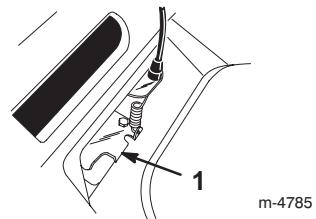

Figure 21
5. Push the belt guide tab down until it contacts the lawn mower, then hold it in place (Fig. 21).